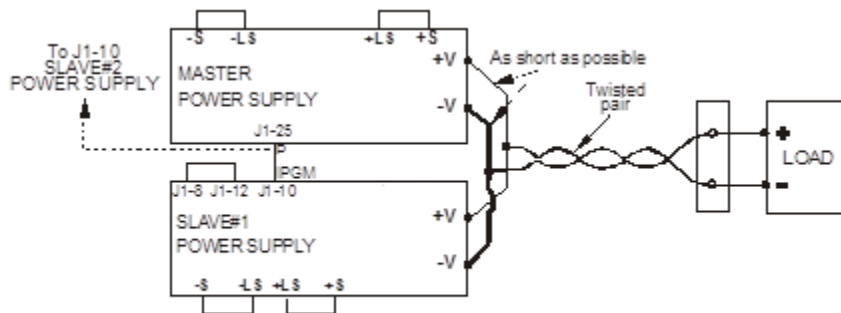

Figure 6-9: Parallel Connection with Local Sensing (Single-Wire Method)
In Parallel operation, power supplies can be connected for local or remote sensing. Refer to **Fig. 6-9 and 6-10** for typical connections of parallel power supplies. The figures show the connections for two (2) units, however the same connection method applies for up to four (4) units.
In parallel operation, power supplies can be connected for local or remote sensing. Refer to **Fig. 6-9 and 6-10** for typical connections of parallel power supplies. The figures show the connections for two (2) units, however the same connection method applies for up to four (4) units.